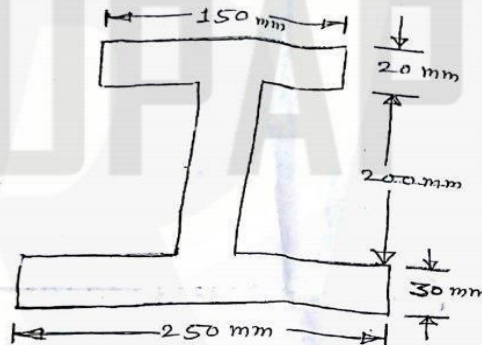

Fig. 2
2. a) Explain the state of simple shear. (4)
b) Determine the moment of Inertia of an I-section as shown in fig. 2 about its centroidal axes about x-x axis and y-y axis. (12)